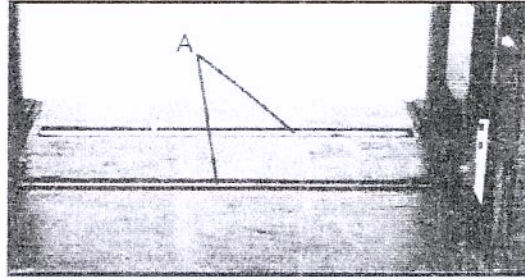

Fig. 27
Your planer is supplied with two table rolls(A) Fig.27,which aid in feeding the stock by reducing friction and turn as the stock is fed through the planer. It is not possible to give exact dimensions on the proper height setting of the table rolls because each type of wood behaves differently. As a general rule, however, when planing rough stock the table rolls should be set HIGH and when planing smooth stock the table rolls should be set LOW.